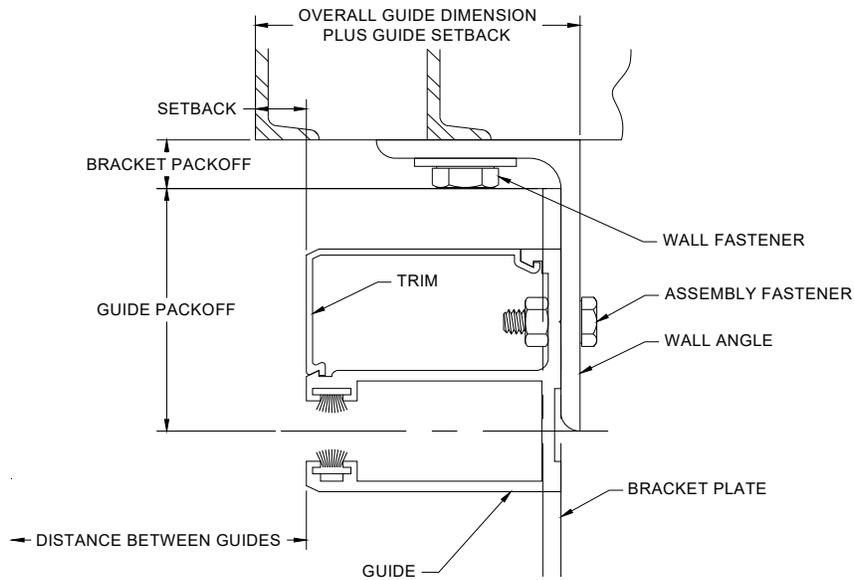

Figure 5.1 - Face of Wall "E" Guide
▪ Face of Wall Units Mounting to Existing Wall Construction (Figures 5.1 - 5.2):
2. Measure the distance from the opening/jamb to the heel of the wall angle (on “E” guides) or the toe of the wall angle (on “Z” guides). This distance is referred to as the “*Overall Guide Dimension plus Guide Setback*”; see **Figures 5.1** and **5.2**. See the job construction drawings for the guide setback and overall guide dimensions.